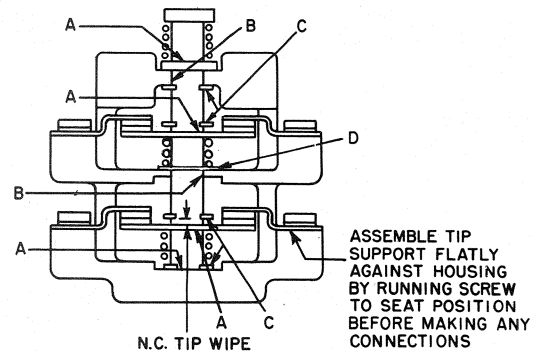

Fig. 43. Interlock block with normally closed contacts in unoperated position
rearranged to change an individual assembly to give a different number of normally open or closed contacts. When these operations are performed, the parts must be reassembled in accordance with Figs. 43, 44 and 45, the previous instructions and the following requirements.
1. The spring ends must not protrude into the holes (A), slots (B), or keys (C), which serve as guides for the operating rod. (See Fig. 43.)
3. Contact blocks with two normally closed circuits require a spring spacer (D) as shown in Fig. 43 to assure that the center spring is properly in place.
4. When circuits are rearranged to obtain one normally open and one normally closed circuit, the normally closed circuit must be located at the bottom as shown in Fig. 43.
3. When the wipe is reduced to one half of the minimum values shown in the general section of Electrical Interlocks, the contact assemblies should be replaced to obtain proper pressures to allow the interlock to operate satisfactorily. The wipe is the compression in inches of movable contact spring between the energized and de-energized positions of contactor. (See Figs. 43 and 45.)